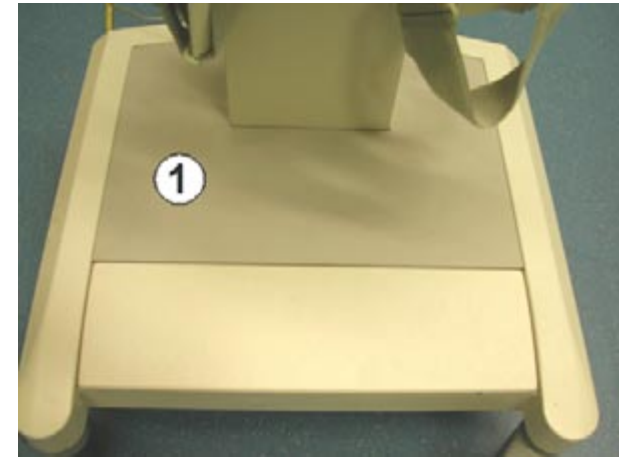

Fig. 2 Cover mat
- 2 Remove the cover mat (Fig. 2/1).